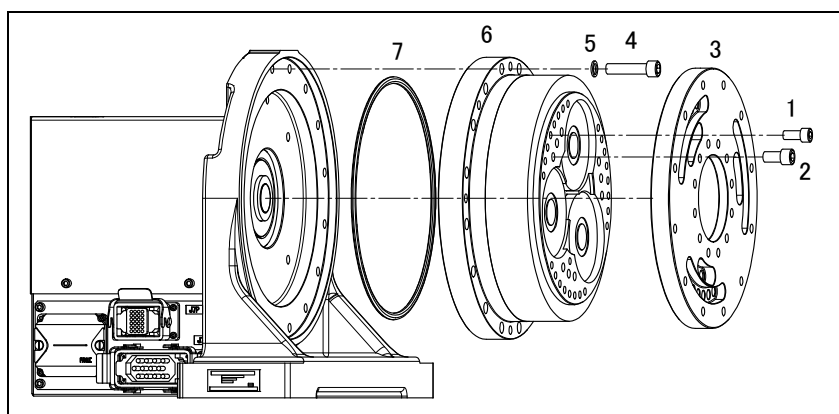

Fig. 6.2.3 Replacing the reducer (1000kg/1500kg payload (Compact type))
- 2 Remove flange mounting bolts (1), (2) to flange (3) and remove the flange (3).
- 3 Remove reducer mounting bolts (4) and washers (5) to base and remove reducer (6).
- 4 Apply sealant to a new reducer as described in Section 6.3 and assemble these components in the reverse order. Replace the O ring (7) with new ones and put them in place. Be careful not to damage the oil seal. For the tightening torque and the application of LOCTITE, see Fig. 6.2.3 below table.